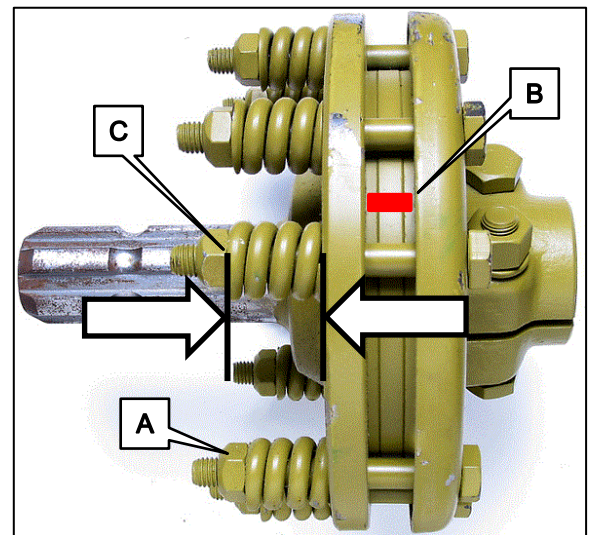

Figure 6.4
- 6.4.4.3 Figure 6.4 A, just until the springs can freely rotate, yet remain secure on bolts.
- 6.4.4.5 Figure 6.4 B.
- 6.4.4.11 Figure 6.4 C) and replace all guarding.